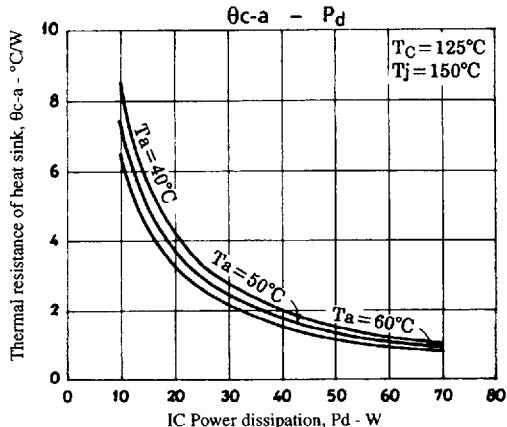

Figure 3. STK4172II  $\theta_{c-a}$  -  $P_d$
Figure 3 shows the relation between  $P_d$  and  $\theta_{c-a}$  given from (1) and (3) with  $T_a$  as a parameter.
The thermal resistance of a heat sink is obtained from Figure 3.